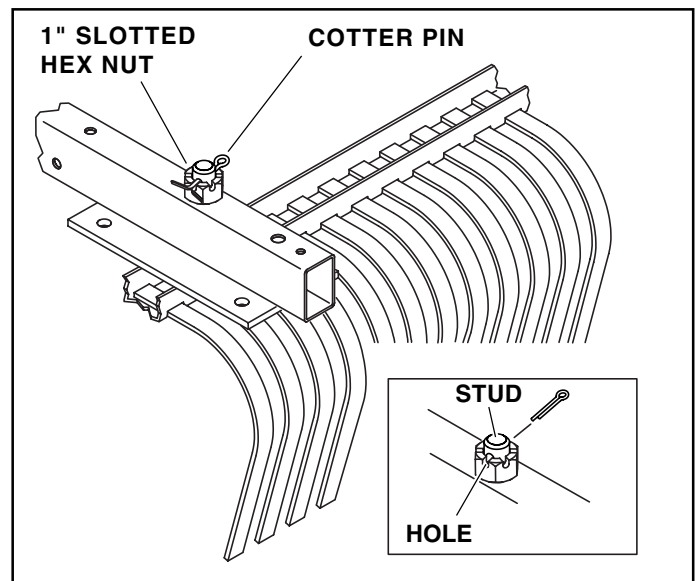

FIGURE 2
2. To prevent the slotted nut from turning on the threaded stud, install the cotter pin through the hole in the stud. Then bend both ends of the cotter pin around the crown of the nut to secure the pin and nut. See figure 2.